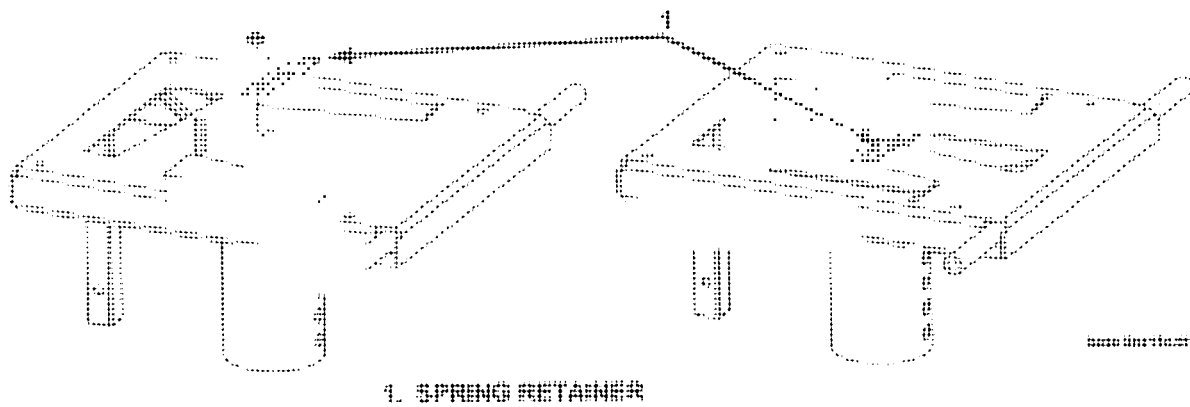

FIGURE 21.
- Install spring retainer plate on frame of seat bottom as indicated in FIGURE 21.